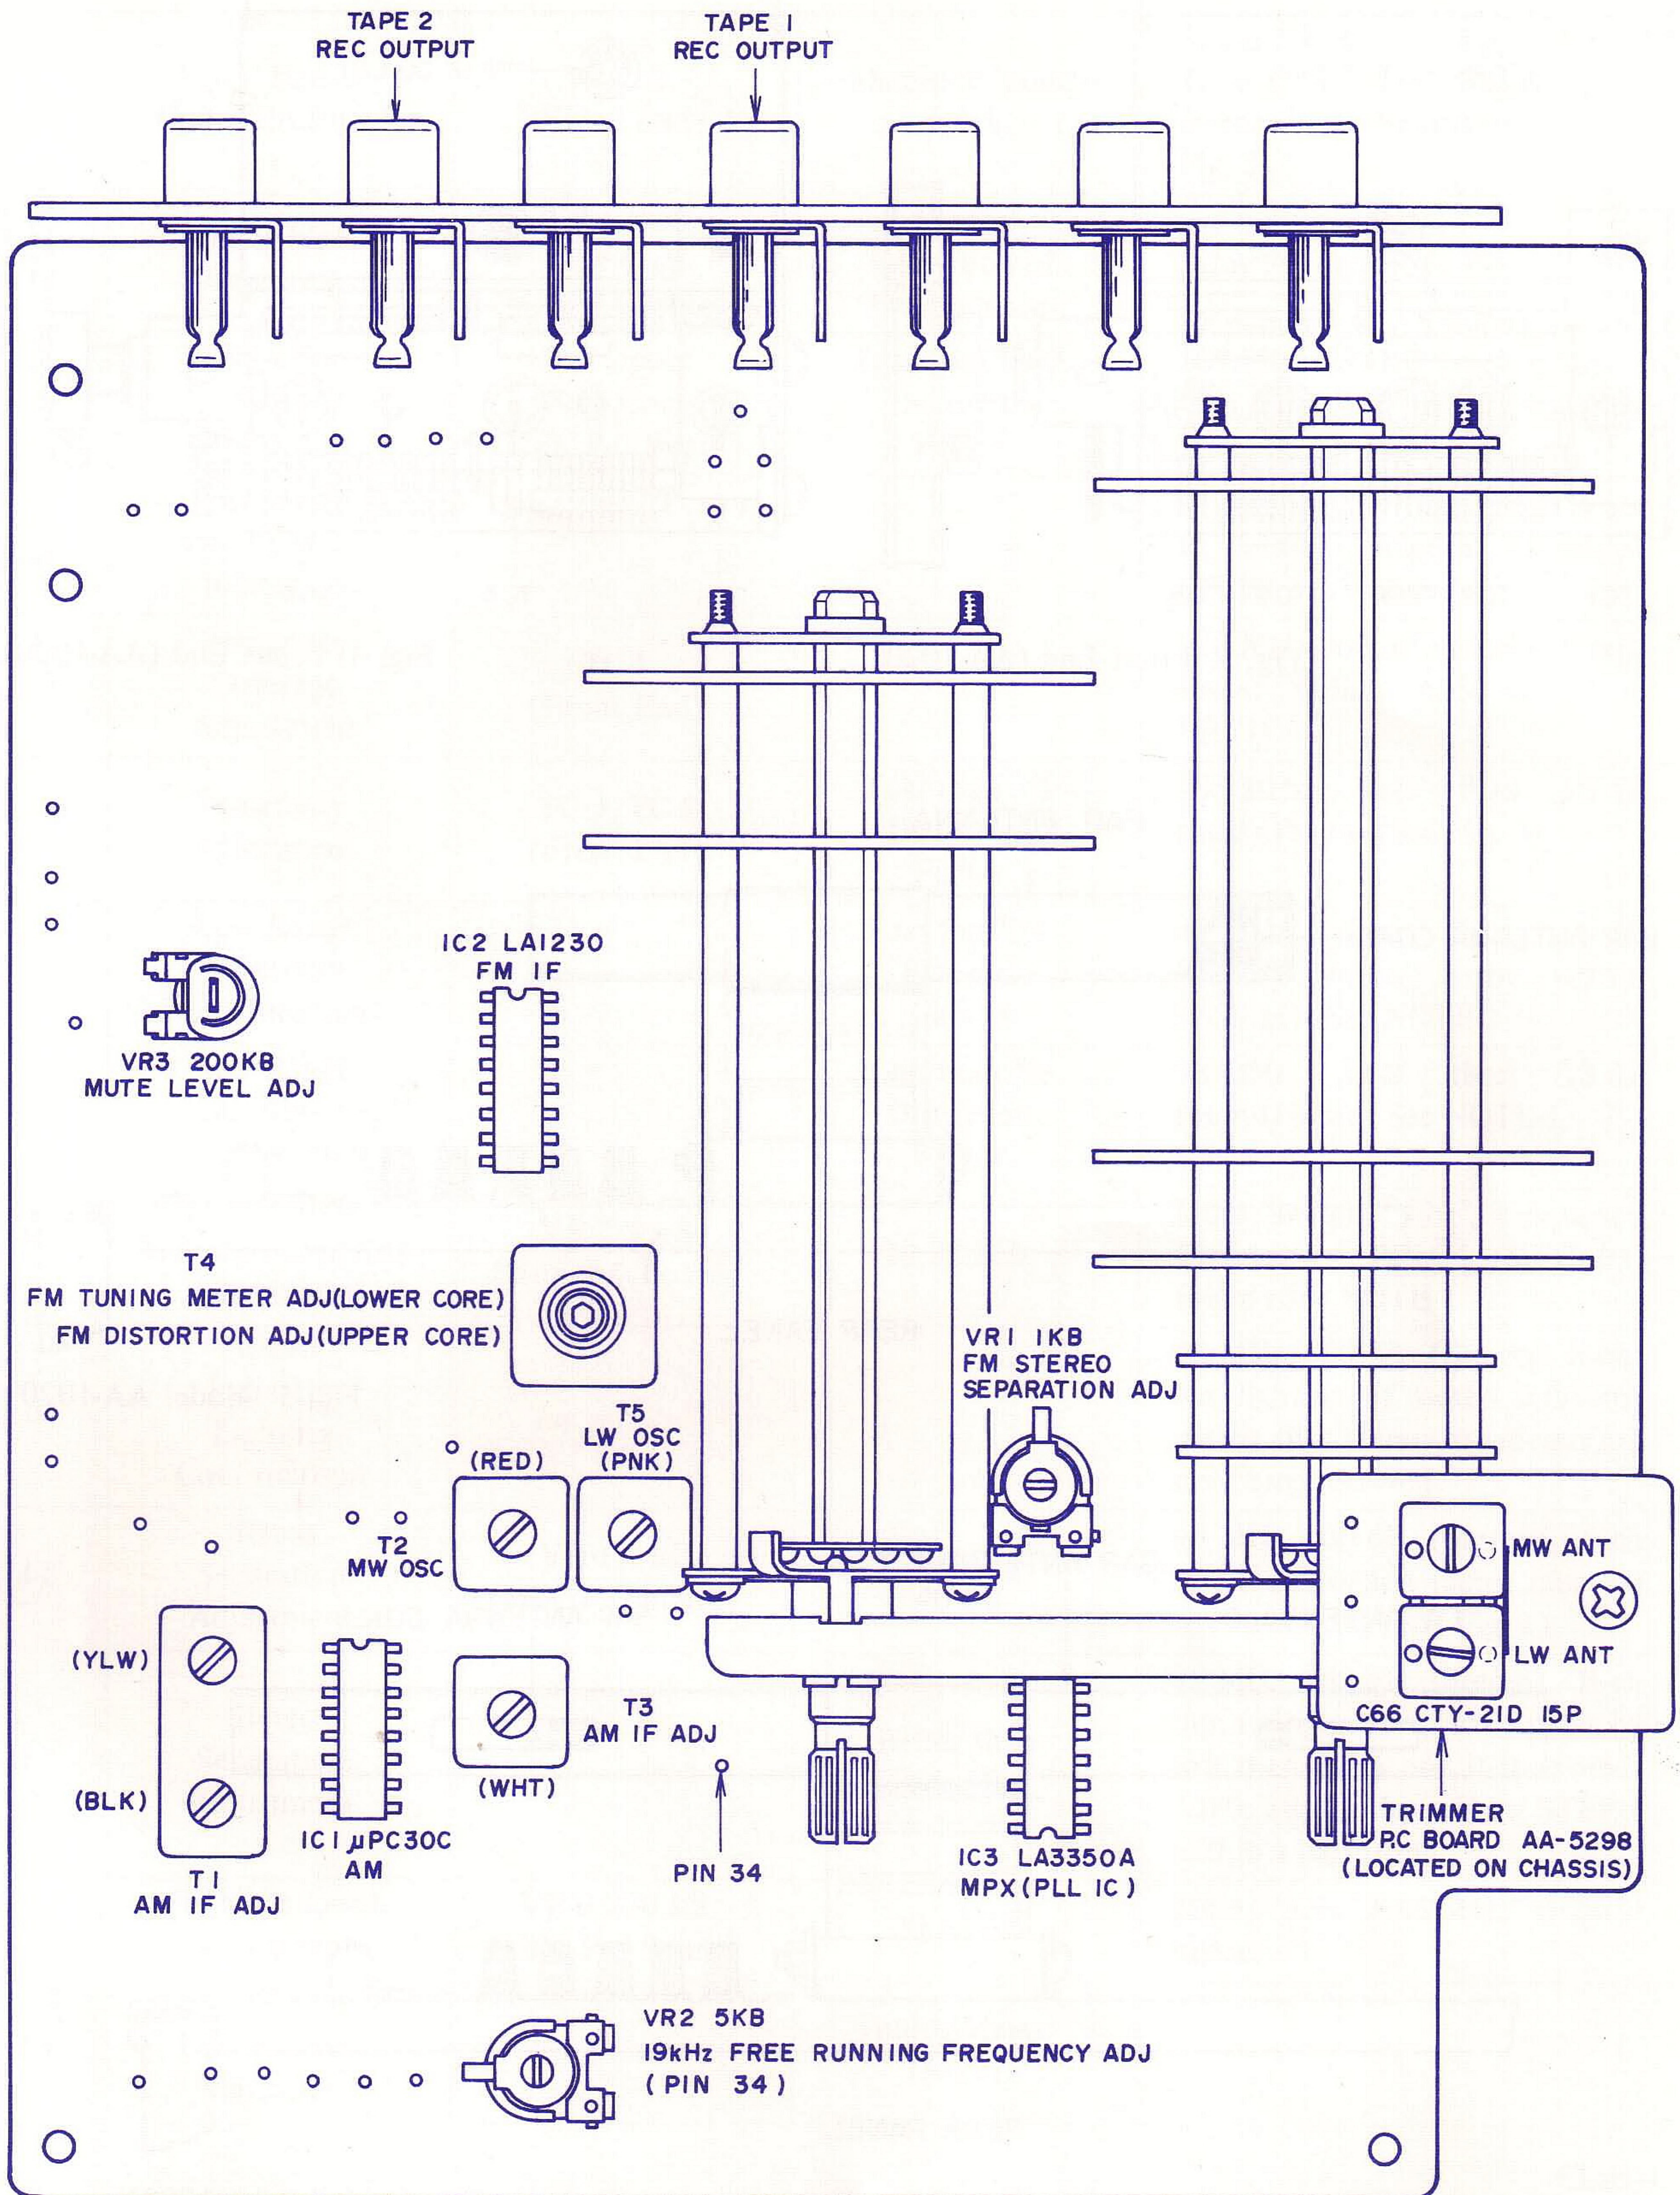

Fig. 2 MFC P.C Board AA-5270A (AA-1020L)
1. LW SECTION ADJUSTMENT (Refer to Figs. 2,6)
2. MW SECTION ADJUSTMENT (Refer to Figs. 2,6)